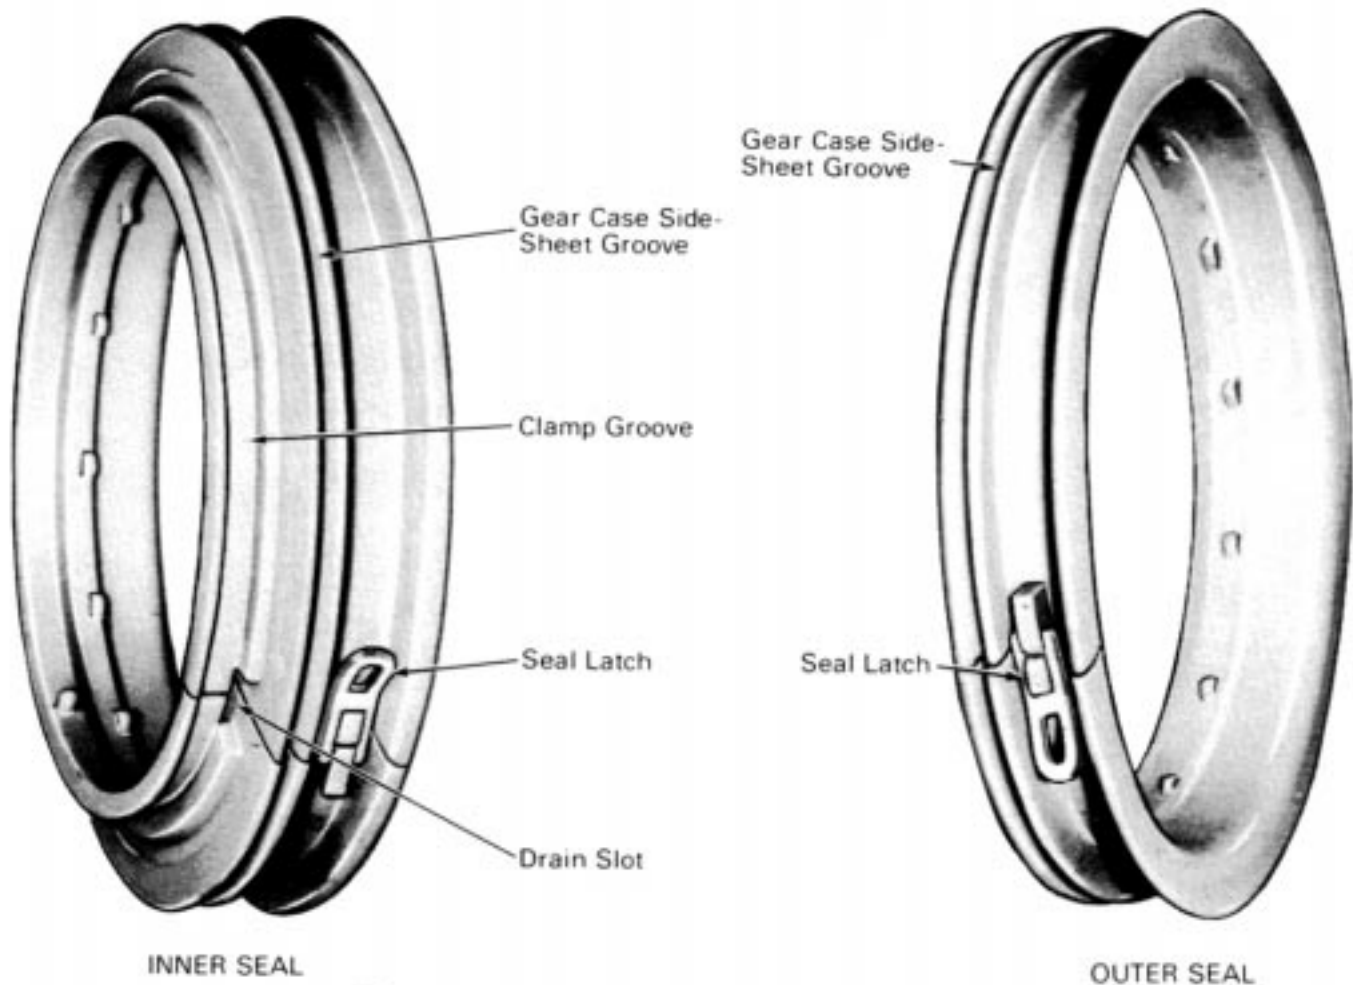

Fig.8 - Axle Bore Plastic Gear Case Seals
The plastic axle bore seals, Fig. 8, are installed around the locomotive axle after assembly of the motor/axle/wheel assembly, prior to the assembly of the gear case.
2. Apply RTV into the gear case side-sheet groove of each seal ring, Fig. 8.